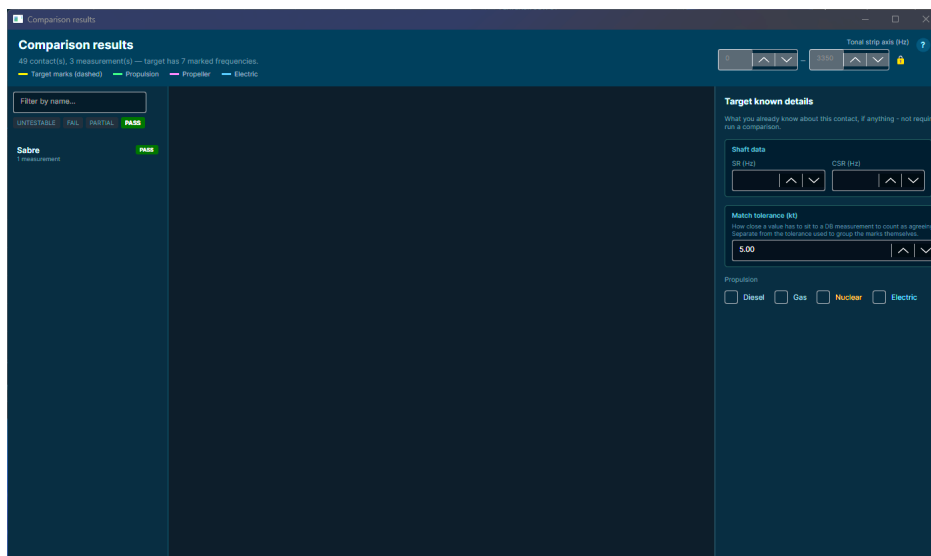

Figure 12: A Single Match
5. In an ideal situation you will end up with a single match (Figure 12) although it is more likely that you will have more than one and several partials.